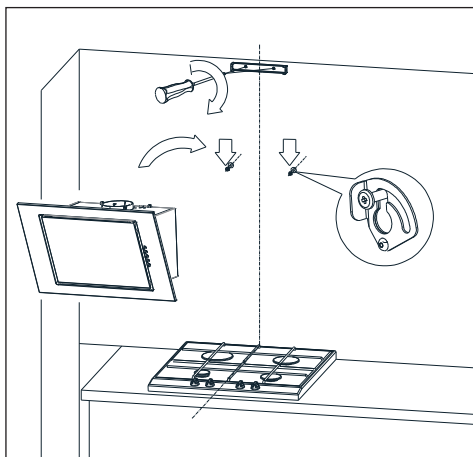

Fig.12 Hood hanging
3. Screw the chimney body fastening element, hang the hood on two untightened screws (Fig. 12).